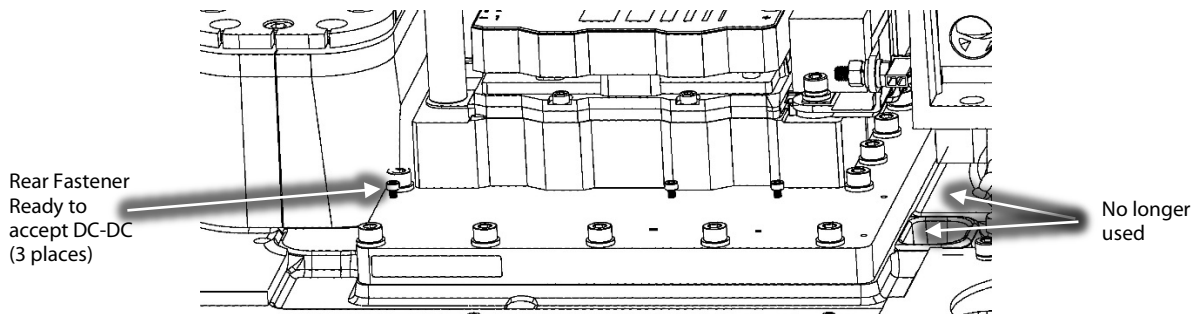

Figure 17 – Rear Fastener Installation
1. Install the new rear fasteners that secure the DC-DC Converter to the Inverter Heat Sink Plate. Do not tighten these fasteners; leave enough space under the fasteners to allow the DC-DC Converter to slide under the fasteners. Refer to Figure 17 (Rear Fastener Installation).